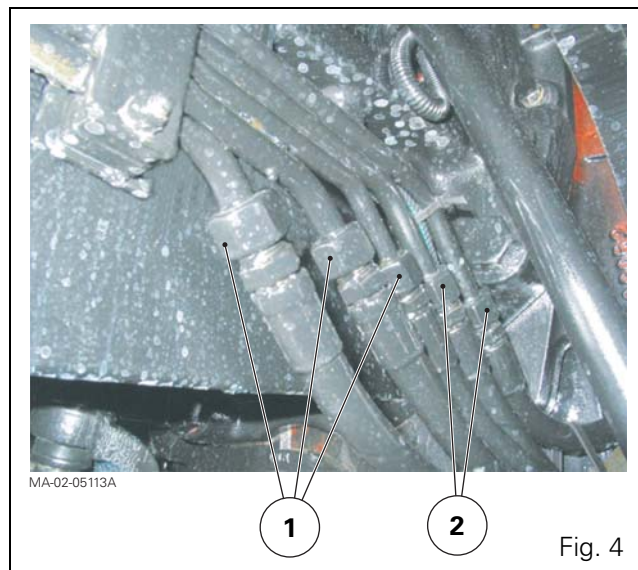

Fig. 4
14. Disconnect (Fig. 4):
- the rigid pipes (1) (pressure, return and LS) to the suspended front axle (if fitted);
- the rigid pipes (2) to the front linkage (if fitted).